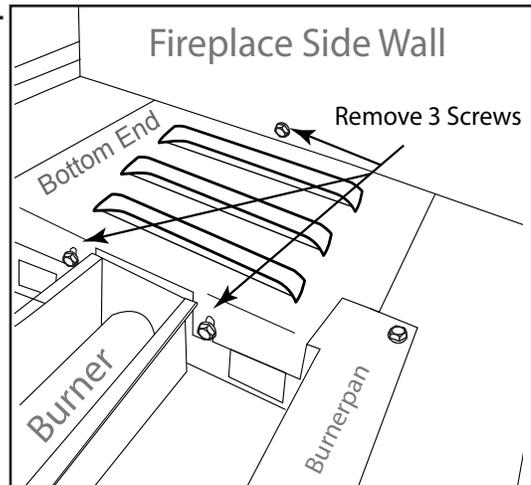

Figure 2 - Removal of burner pan screws.
**RECOMMENDATION:** Once the gas line is established it is recommended to remove the burner pan from the firebox until the fireplace is in the final stages and ready for the burner installation. See Burner Pan Removal in *Figure 2*.
The burner pan is secured in the fireplace with five (5) screws on one end. The end with two (2) screws is only the burner pan lip (see *Figure 2*). Remove all seven (7) screws to lift the burner pan up.